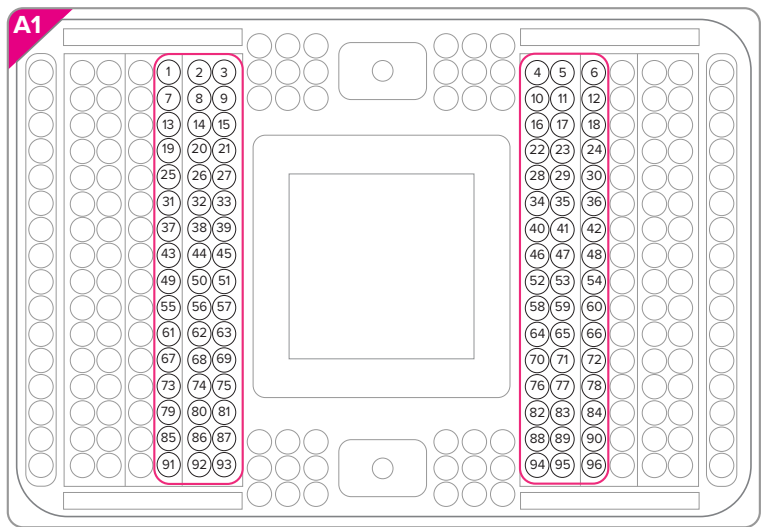

Figure 6. Pipette map of reaction products on the C1 IFC
- 6 Use an eight-channel pipette to pipet the harvested amplicons from the inlets according to Figure 6 and Table 4 and place in the harvest plate: